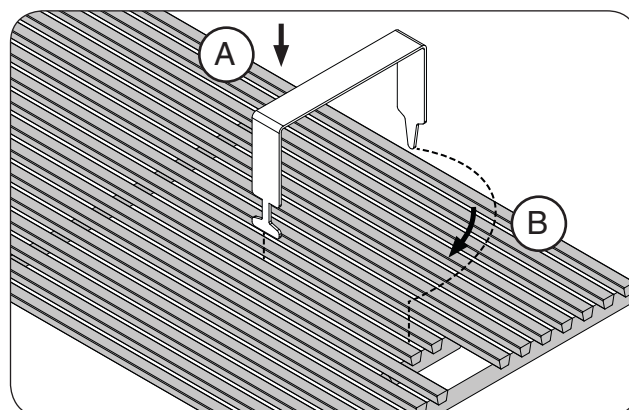
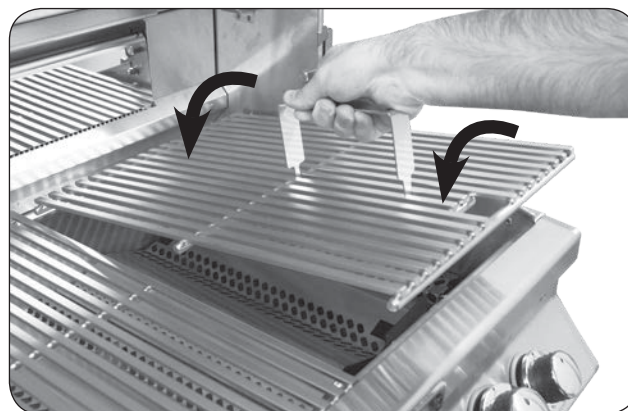

Fig. 22-2 Install cooking grids
Fig. 22-3 Install cooking grids
1. With the prongs facing downward, insert the notched-end of the lifter between two grid rods, then rotate, as shown in Fig. 22-2, A & B.
2. Insert the rear pointed-end of the lifter between the same two rods (see Fig. 22-2, B) and carefully lift the cooking grid and place onto the front and rear grid rests of the grill (see Fig. 22-3). Repeat for all other cooking grids.